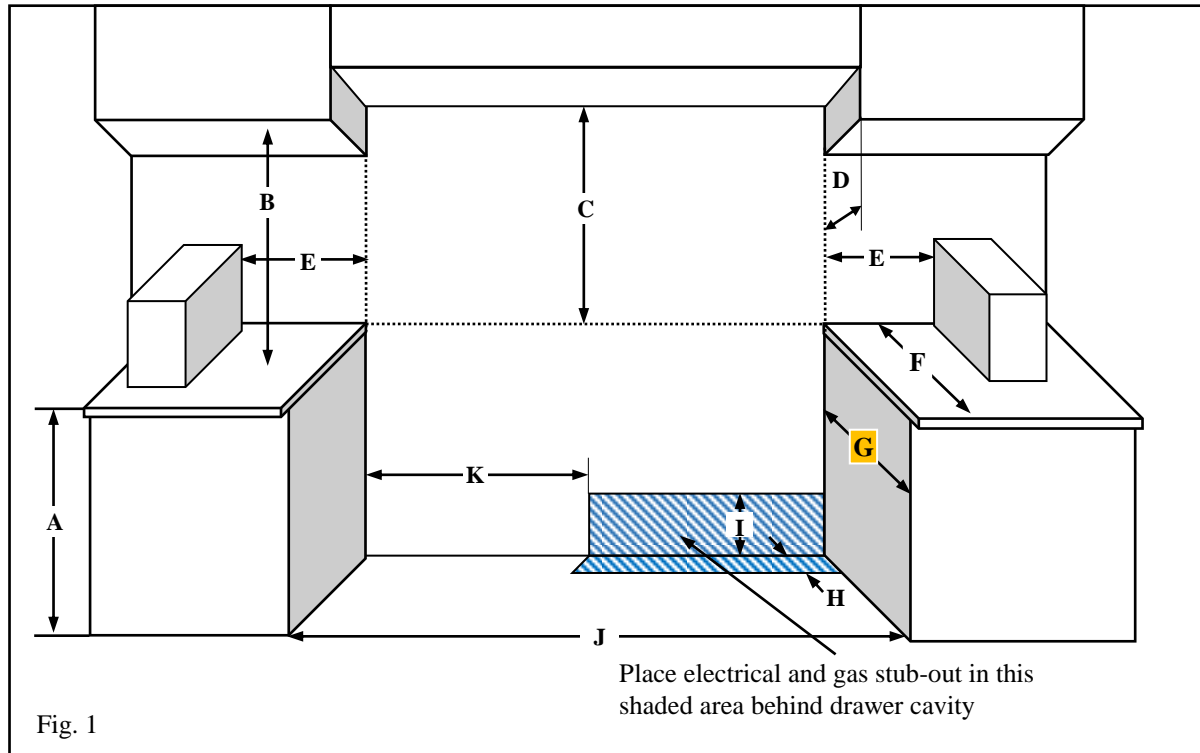

Fig. 1
- The range is a free standing unit. If the unit is to be placed next to cabinets, the clearances shown in Figure 1 & 2 are required.